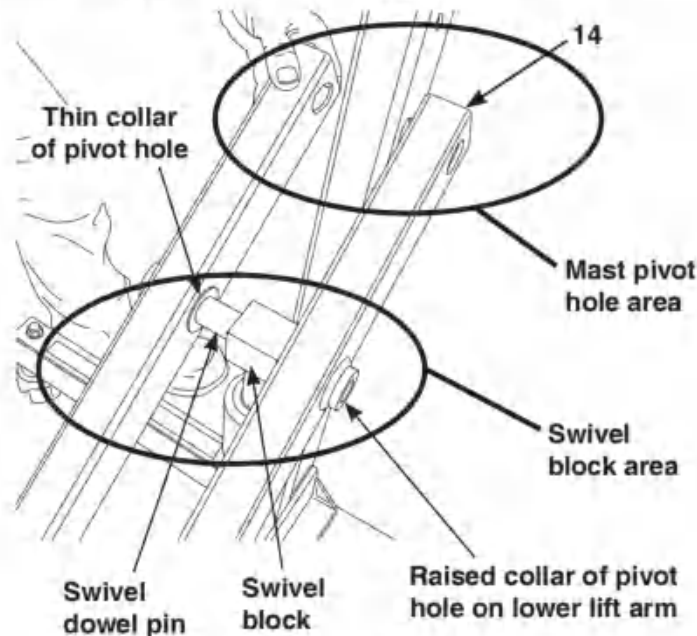

Figure 6
These two areas are circled in **Figure 6**.
8. Each lower lift arm features a pivot hole with a raised collar on one side and a thin collar on the other side. Position one lower lift arm (14) with the raised collar of the pivot hole facing away from the mast, and the thin collar of the pivot hole towards the mast. **See Figure 6.**
9. Insert cylinder swivel dowel pin through boom tube pivot holes. **See Figure 6.**